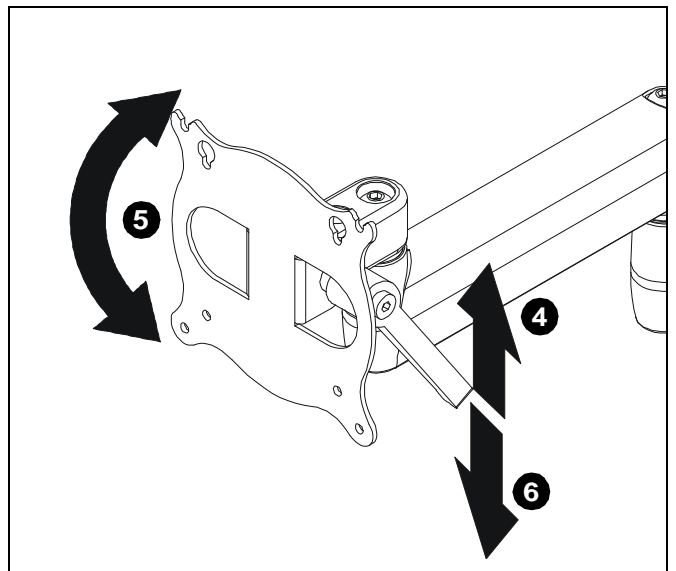

Figure 7
4. Lift handle up until pitch can be adjusted easily. (See Figure 7)
5. Adjust pitch to desired position. (See Figure 7)
6. Push handle down until faceplate is locked at desired pitch position. (See Figure 7)